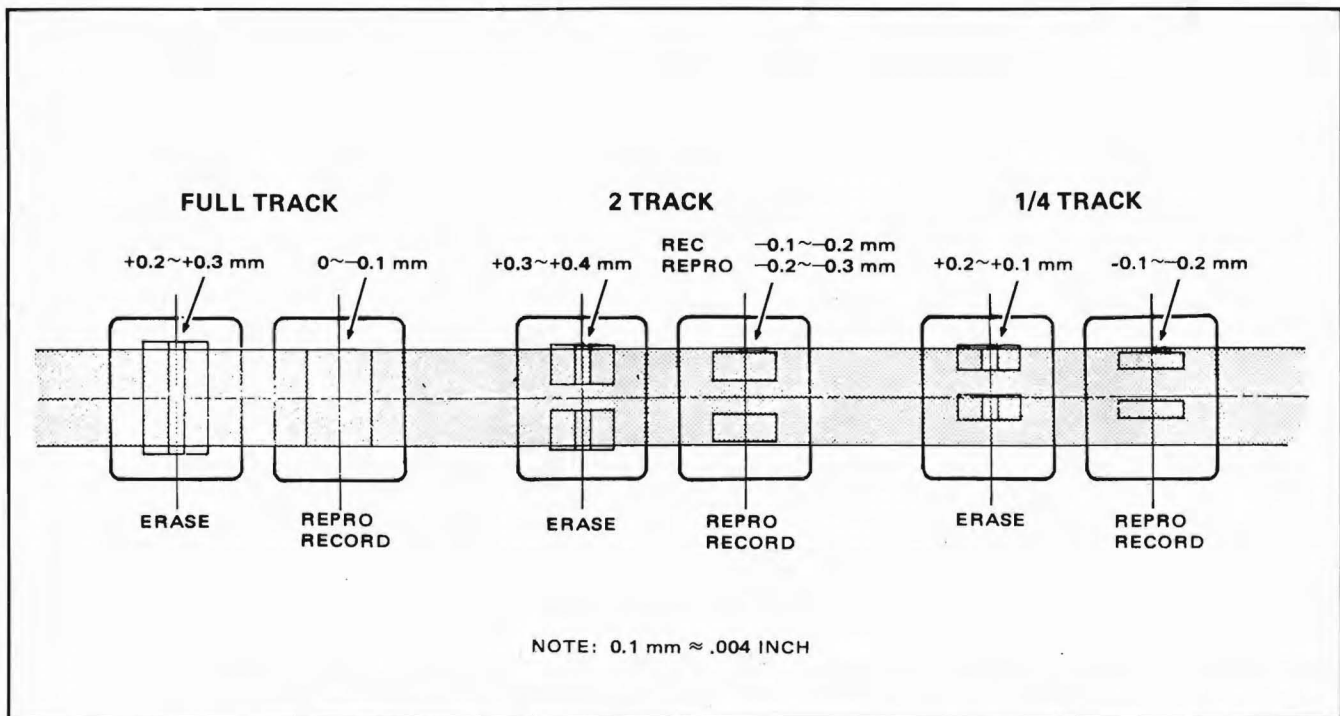

Figure 5-7. Tape Positioning for Head Alignment
- a. Head height: Adjust height and tilt screws until the head core for track 1 (inner core) is even with the inner edge of the tape. (See Figure 5-7 for exact tape positioning.)